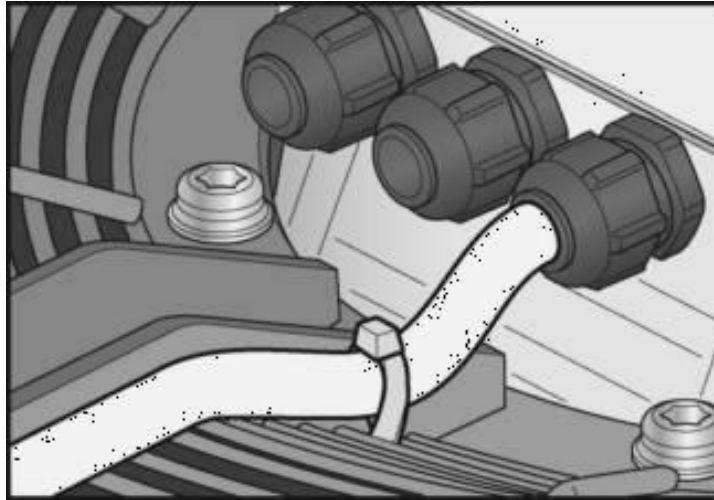

Figure 21. Fan and Motor Assembly Cable Routing
- Using zip cable ties secure cables to the fan and motor support channels. Ensure the cable is routed in a U-shape as shown in **Figure 21**.